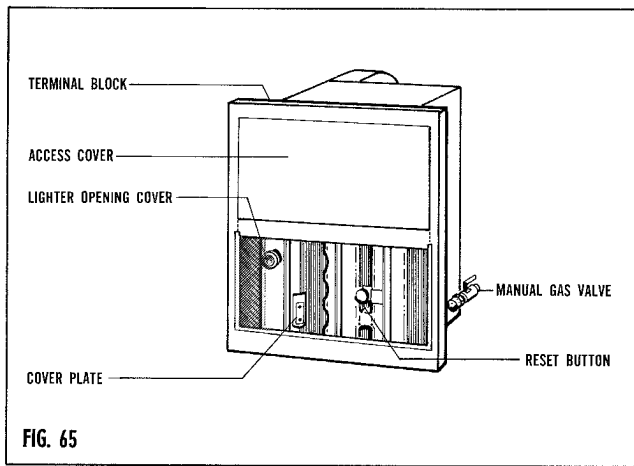

FIG. 65
**OPERATION.** To light the heater, turn the manual gas valve to the "On" position and set the thermostat to the "Off" position (See figure 65). Raise the front access panel, unscrew the lighter opening cover, and insert a burning match through the opening so the flame is near the pilot. Press the reset button and hold. On the initial lighting, the pilot may not light immediately due to air in the gas line. If such is the case, it may be necessary to hold the reset button in for a minute or more before the pilot lights. When the pilot is burning, continue to hold the reset button in for approximately 30 seconds. The pilot should then continue to burn when the reset button is released. Replace the lighter opening cover and turn the thermostat up. The heater is now ready for use.
To adjust primary air, remove the front access panel and take out the screws that retain the rectangular cover plate (see figure 65). Inside the opening, created by removing the cover plate, is a threaded rod with the visible end slotted. This rod controls the position of the main burner primary air shutter. With a screwdriver, turn the rod counterclockwise for less primary air or clockwise for more primary air. In isolated cases it may be found that a difference in pressure between the air in the room and the air outside the trailer will cause a strong draft through the heater when the lighter opening cover is removed, resulting in a difficult lighting operation. When this condition exists the pressure may be equalized by opening a window or door as near as possible to the heater. The desired result may not be obtained unless the door or window is on the same wall as the heater. After the pilot has been lit and the lighter opening cover replaced, this difference in pressure will not affect the operation of the heater.